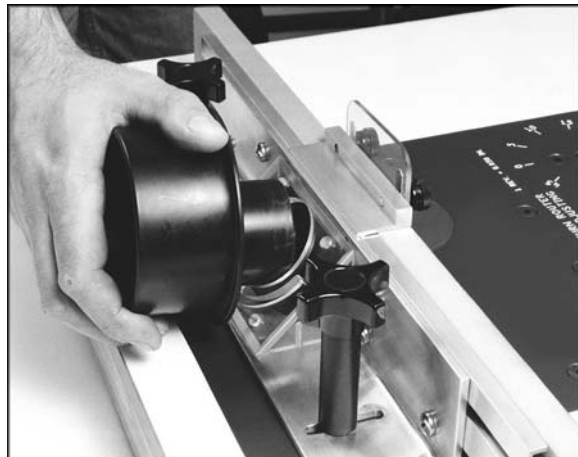

Figure 14
8. The vacuum attachment is sized to accept standard 2-1/4" vacuum hose or a dust collector adaptor (see your local Powermatic dealer for adaptors). To install hose on the vacuum attachment, press nozzle down slightly on the flexible arms and pivot inward (Fig. 14).